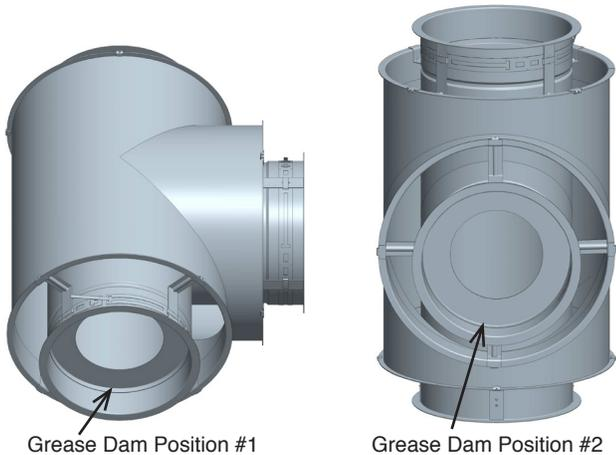

Figure 32a - Grease Dam Position #1 Figure 32b - Grease Dam Position #2
To comply with the NFPA 96 requirements, the **T90D#** is comprised of a **T90** equipped with a 1 1/2" wide circular "donut" welded in place (serve as a dam) at any access port and must be closed with a Tee Cap (TC) or a No Tool Tee Cap (NTTC). The location of the access port in the Tee is dependent on the orientation of the tee in the final installation. Access port location is coded as shown in **Figure 32a** and **Figure 32b** for the two options.